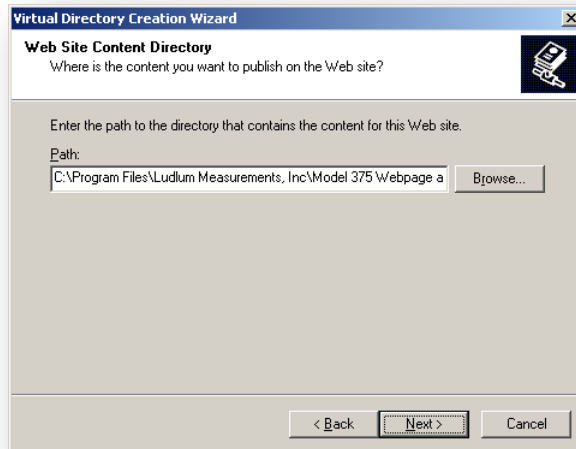

Figure 94 – Web Site Content Directory
11. Click “OK”. See Figure 94.